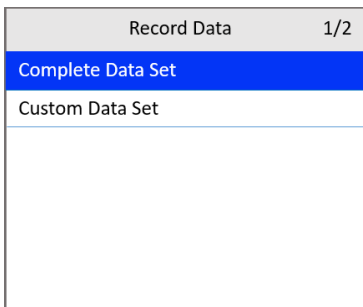

Figure 4-16 Record Data Screen
- 1) To record customized data, use the **UP/DOWN** scroll button to select **Custom Data Set** from the Record Data screen (Figure 4-16) and press the **OK** button.